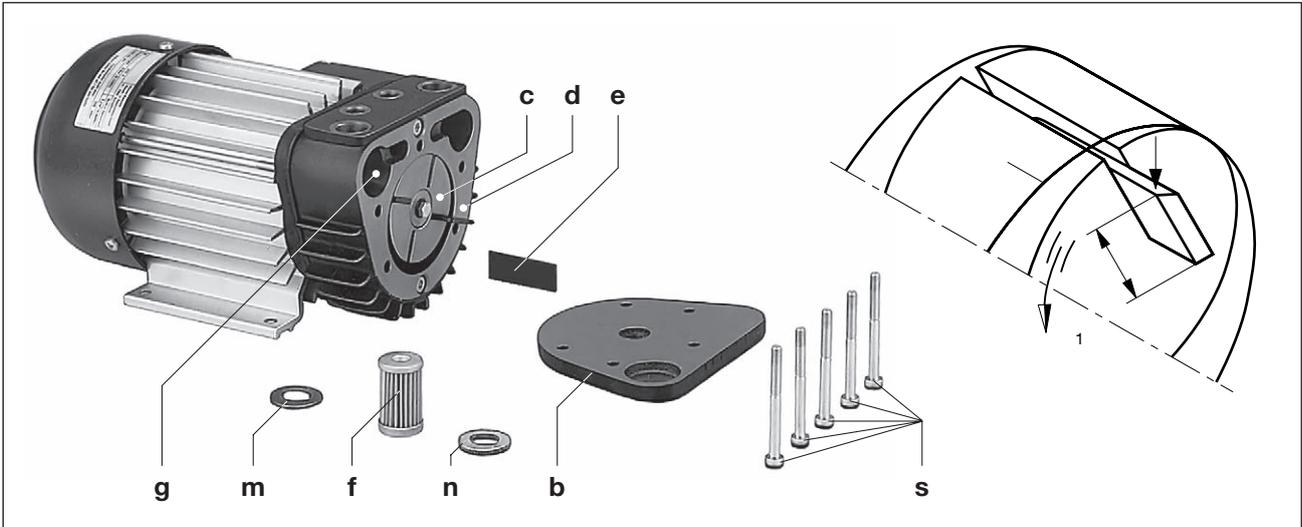

Fig. 3 Air filtering and changing blades
The filter cartridge (Fig. 3/f) air must be cleaned by blowing from the inside to the outside once a month or more often depending on the level of contamination, or if necessary replaced.
Remove filter cartridge (Fig. 3/f) with gaskets (Fig. 3/m, 3/n) from filter room (Fig. 3/g). Clean or replace filter cartridge and check gaskets.
- a) Don't interchange gaskets (Fig. 3/m, 3/n)
- b) Ensure that the surfaces of housing (Fig. 3/d) and rotor (Fig. 3/c) are clean
- c) Tighten the screws (Fig. 3/s) to 5,5 +0,5 Nm
Unscrew the housing cover (Fig. 3/b) from the housing. Remove the blades (Fig. 7/e) to be checked. All blades must have a minimum height (Fig. 3/X):
Blow out the housing and the rotor slot. Insert the blades into the rotor slot. When doing this you must ensure that the blades with the sloping side (Fig. 3/Y) point outwards and the direction of rotation of these sloping sides (Fig. 3/O₁) matches that of the drilled holes for the housing (Fig. 3/Z).
Replace the housing cover (Fig. 3/b) and slightly tighten the screws. Start the pump briefly and check for free and smooth running blades. Tighten the screws (Fig. 3/s) to 5,5 + 0,5 Nm.